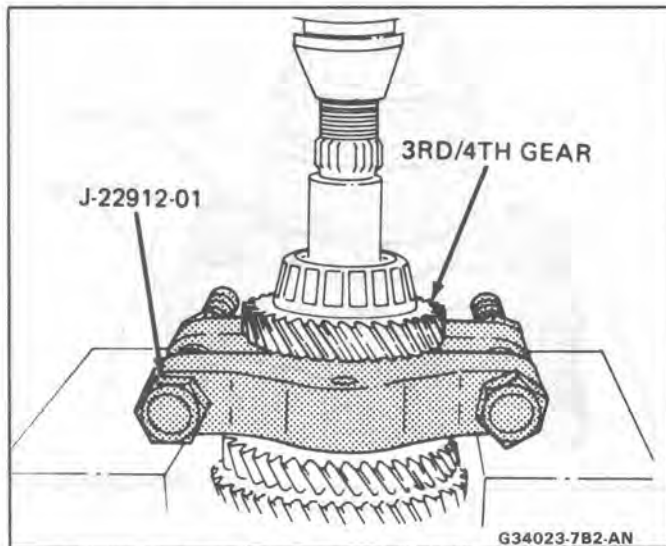

Fig. 24 Rear Output Bearing
2. Remove the rear bearing and 3rd/4th gear simultaneously using J 22912-1 and a press (Fig. 24).